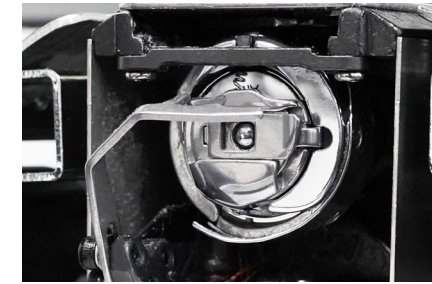

Figure 30
1. If you haven't done so yet, remove the bobbin case from the machine's bobbin housing unit. Lift the latch and pull the bobbin case toward you to remove it. **See Figure 30.**